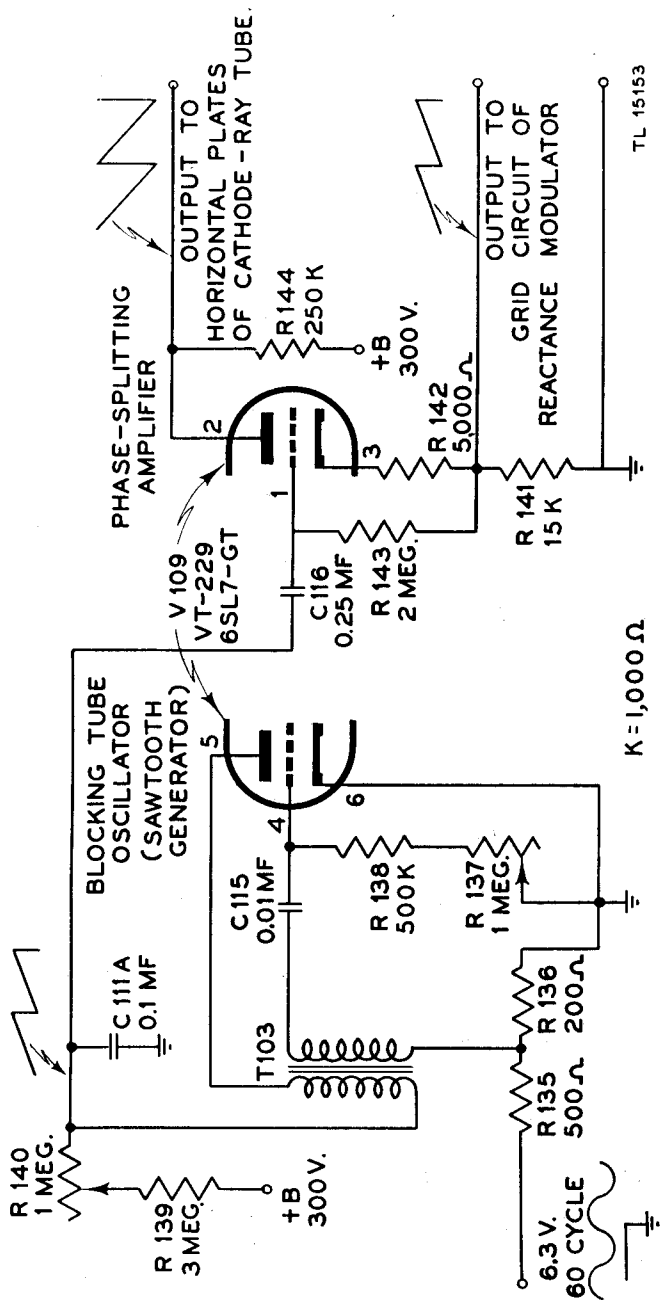
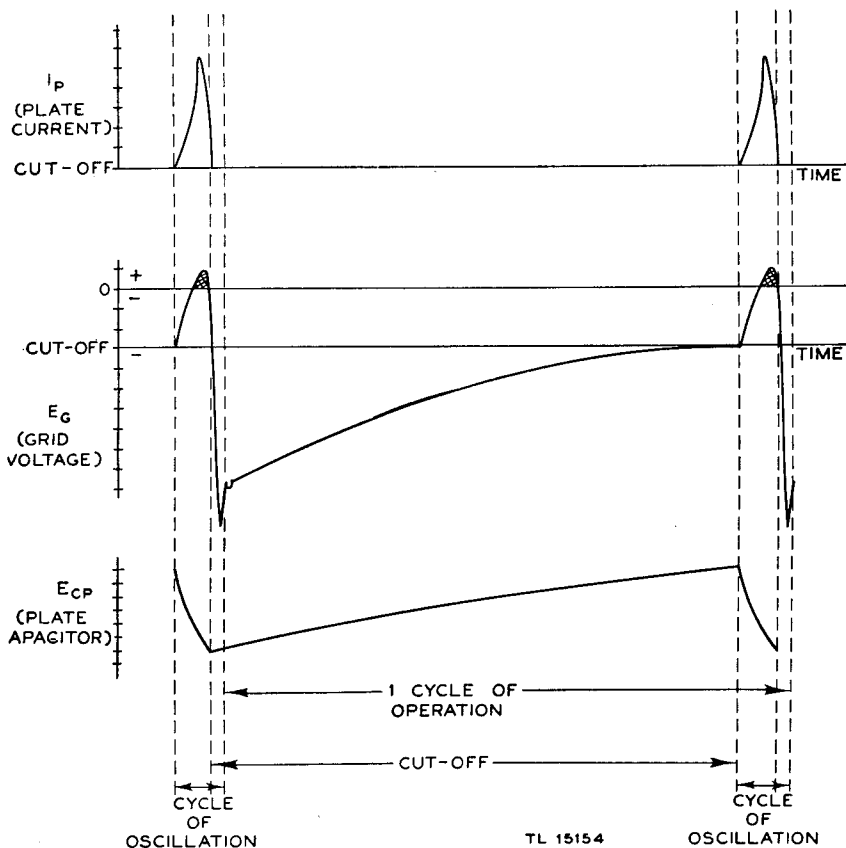

Figure 14. Simplified schematic diagram of blocking oscillator and amplifier.
Figure 15. Theoretical current and voltage waveforms of blocking oscillator.
Figure 14 shows a simplified schematic diagram of the saw-tooth generator which consists of a blocking oscillator and a phase-splitting amplifier. Waveforms of voltages resembling those obtainable by the use of a test oscilloscope are shown at various
(1) The saw-tooth generator of the adaptor uses a single-swing blocking oscillator whose output is taken off across a capacitor C111A in the plate circuit. An external 60-cycle, a-c voltage is injected into the grid circuit to synchronize the recurrence frequency at a submultiple of the frequency of the power source. This type of oscillator is known as a single-swing oscillator because the plate current of the tube is cut off at the completion of one cycle of oscillation.
(2) Theoretical curves of voltage and current (theoretical representations) are shown in figure 15 to help clarify the operation of the oscillator circuit shown in figure 14. The circuit consists of a transformer-coupled feedback oscillator, with capacitor C115 in series with one of the grids of V109. This tube is a dual triode. *Disregarding the 6.3-volt, a-c synchronizing voltage for the time*
**b. Phase-splitting Amplifier.** The output saw-tooth voltage of the oscillator is coupled to the grid of the amplifier through capacitor C116. This amplifier has two output voltages as illustrated in figure 14.
(1) Any ordinary vacuum tube used as a conventional amplifier has an output of opposite polarity to the input. In other words, a positive-going voltage on the grid produces a negative-going voltage at the plate, and vice versa. However, in most applications of the vacuum tube, the output voltage at the plate has an amplitude greater than that of the input voltage.
(2) The phase-splitting amplifier used in the panoramic adaptor employs a circuit which converts a single input voltage to a double output; one output being the normally amplified and inverted voltage at the plate, and the other output being a voltage of the same polarity and waveshape, but having slightly less amplitude than the input voltage. This output is taken from a tap on the cathode resistor and is developed in the following manner: